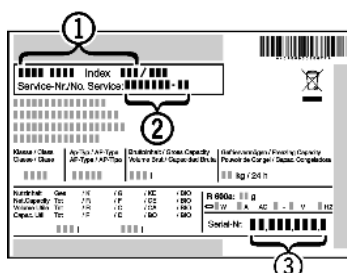

Fig. 10
- ▶ Read the appliance designation *Fig. 10 (1)*, service No. *Fig. 10 (2)* and serial No. *Fig. 10 (3)* off the type plate located inside the appliance on the left-hand side.
- ▶ Notify the customer service, specifying the fault, appliance designation *Fig. 10 (1)*, service No. *Fig. 10 (2)* and serial No. *Fig. 10 (3)*.